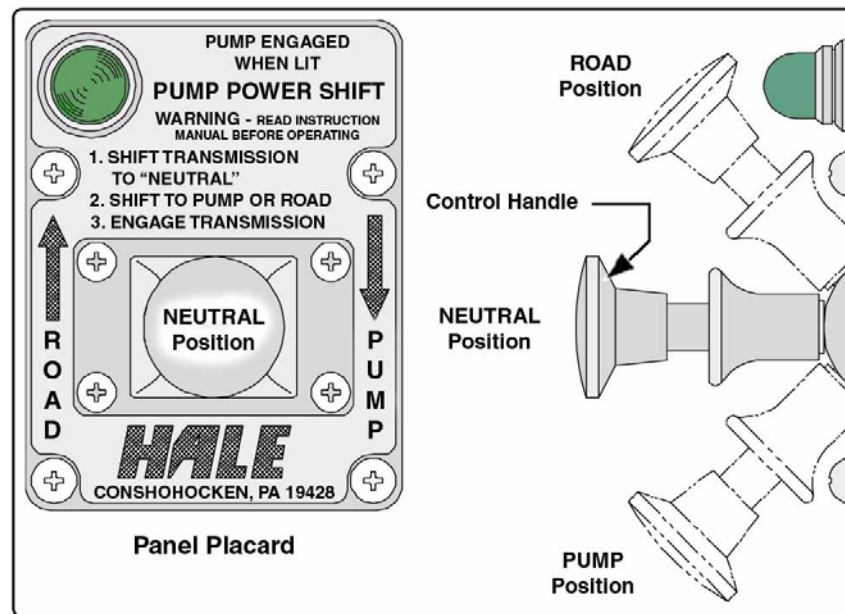

Figure 4-1: Driver's Compartment Indicator Lights
For PTO operation (Qmax-U, Qtwo-U, and Qpak-J pumps), engage the PTO (power take-off) per the PTO manufacturer’s instructions (move the in-cab pump shift control valve to the PUMP position). The GREEN shift warning lights illuminate, indicating a complete shift. (See Figure 4-1: “Driver’s Compartment Indicator Lights” on page 55.)
5. Engage the PTO (power take-off) per the PTO manufacturer's instructions (move the in-cab pump shift control valve to the PUMP position). The GREEN shift warning lights illuminate, indicating a complete shift. (See Figure 4-1: "Driver's Compartment Indicator Lights" on page 55.)
4. Move the in-cab pump shift control valve to the PUMP position. The shift warning lights illuminate, indicating a complete shift. (See Figure 4-1: “Driver’s Compartment Indicator Lights” on page 55.)